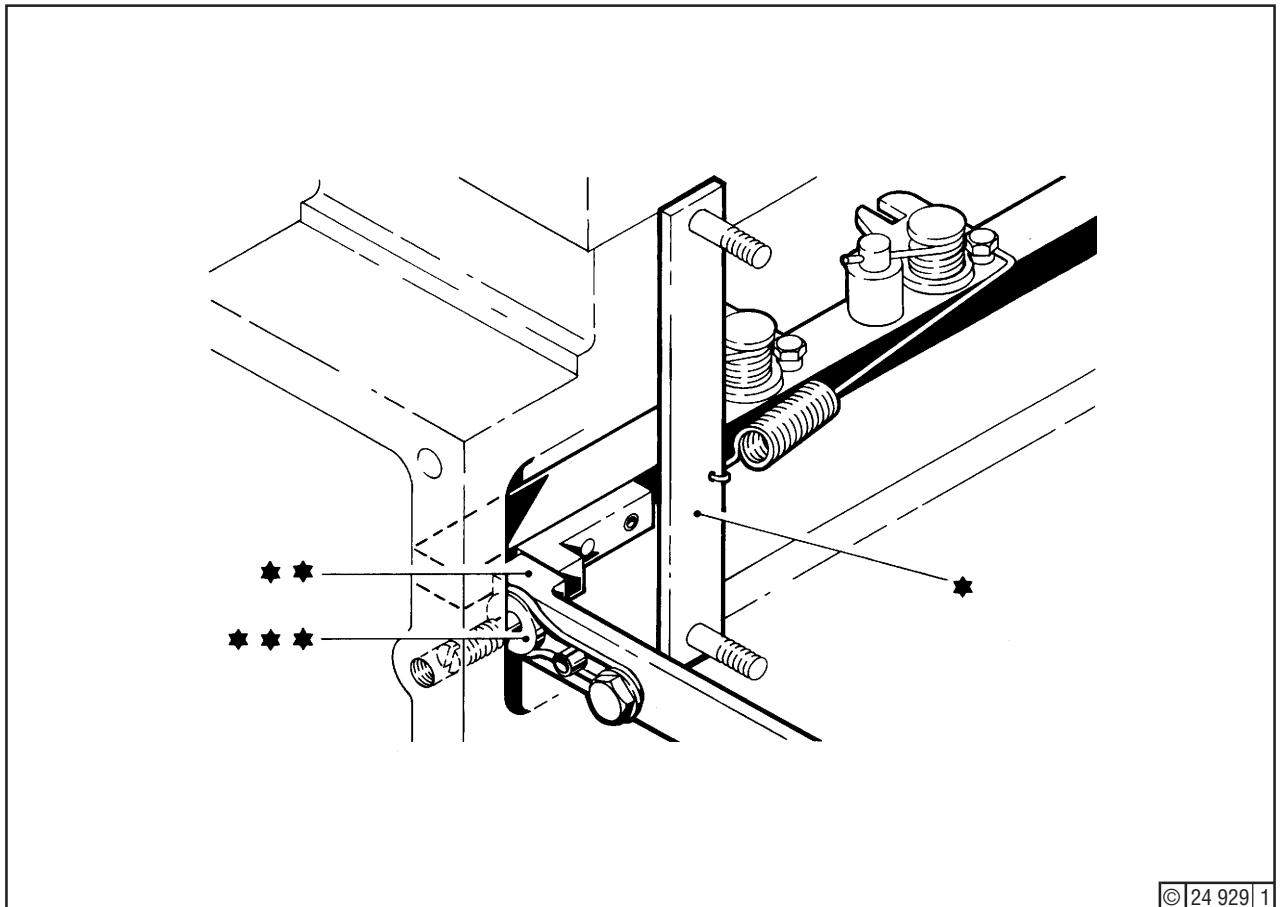
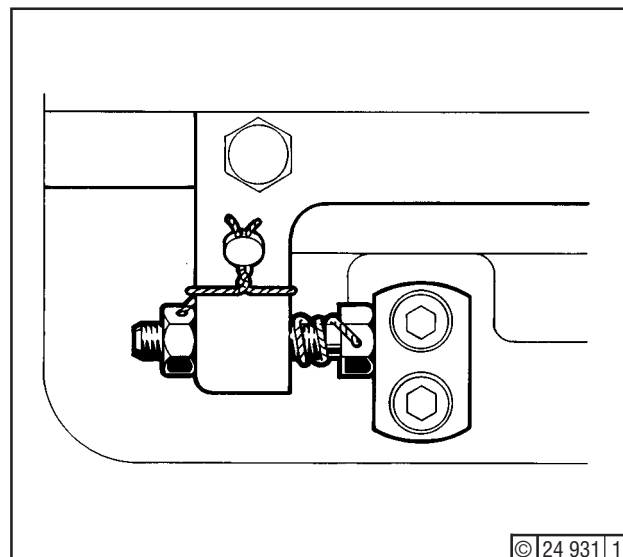

Fig. 7
Fig. 9
5. Use tools (*) - Fig. 7 - to pull control rods of all injection pumps against the gauges (**) contacting check stops (***) at points A18 and A19. Leave tools (*) mounted for the time being.
Then, at the right-hand end of the link (*) (point A24), adjust the length of the link by means of the eccentric (**) so that the control rods contact the check stops without pressure, with the gauges inserted (see Fig. 7). Insert new cheese-head screws (***) and tighten according to specification, see "Specification Data", Section 3.5, line 60. If the setting at the right-hand eccentric is insufficient, rectify at the left-hand eccentric.
7. Remove tools (Fig. 7). Move linkage in the direction "Stop" until one or more stop screws abut at points C12 and C13 (Fig. 9).